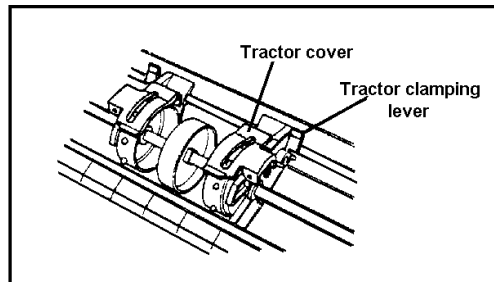

FIGURE 20 - PAPER FEED FROM BOTTOM
3.8.3.3 Open both tractor covers (Figure 20).